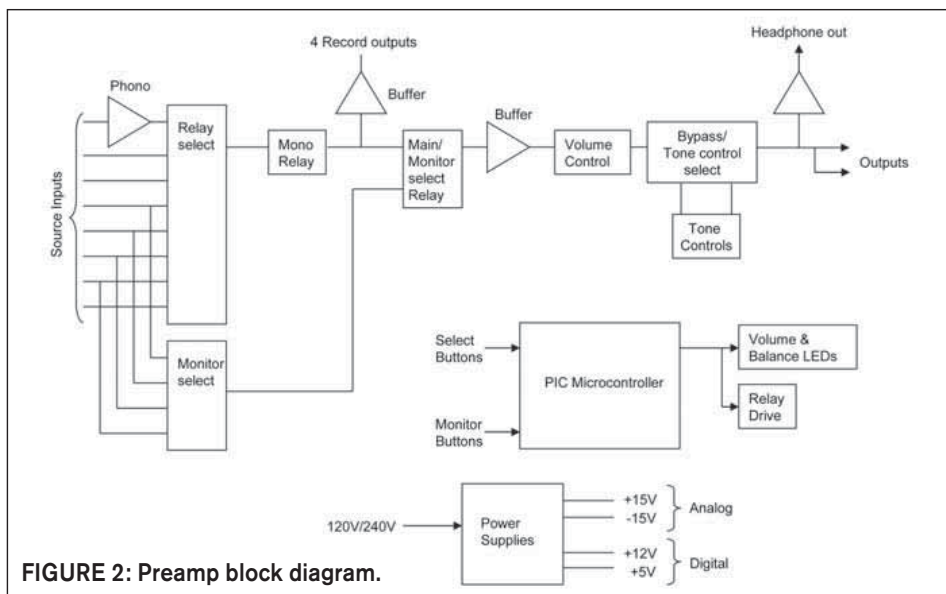

FIGURE 2: Preamp block diagram.
**Figure 2** is a block diagram of the preamp. One of eight inputs is selected by a relay network. The phono input passes through the phono amp stage first to apply RIAA compensation and to bring it essentially to the same level as the other line level inputs. Four of the inputs also appear at the monitor select relays.